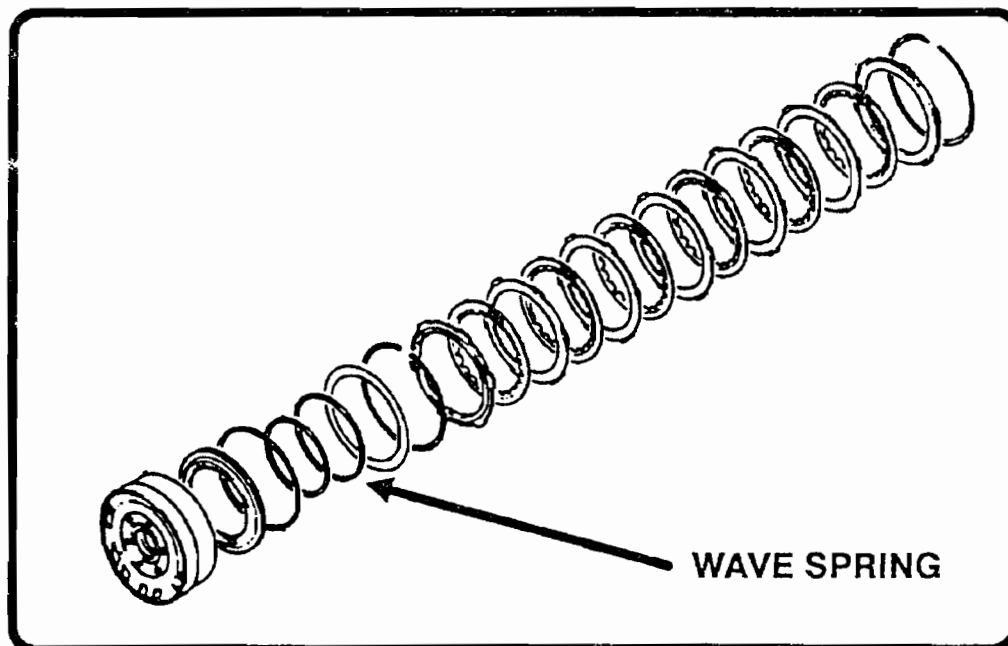

Figure 1
**CAUSE:** *Broken square cut waved spacer found underneath the diaphragm return spring in the low reverse clutch housing, and will not allow the clutch to release (see figure 1).*